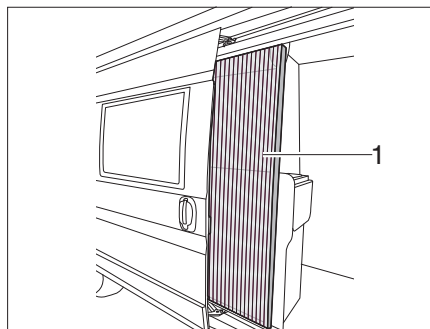

Fig. 21 Insect screen
- Closing:** ■ Pull out the insect screen completely at the strip (Fig. 21,1).
- Opening:** ■ Push the insect screen back into the starting position at the strip (Fig. 21,1).